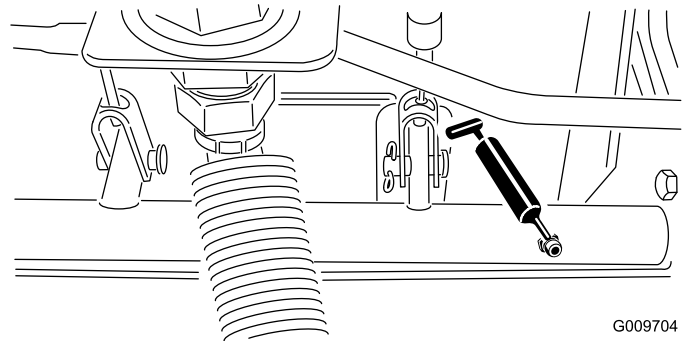

Figure 21
- Brake-shaft pivot bearings (5) (Figure 21)